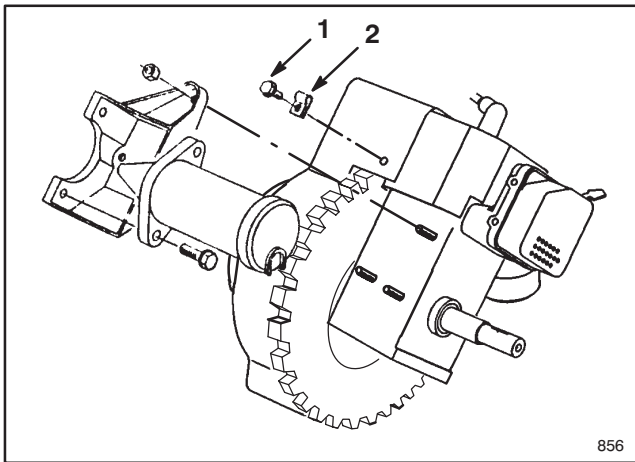

Figure 5
7. Remove screw and r-clamp (Fig. 5) and save for reinstallation.